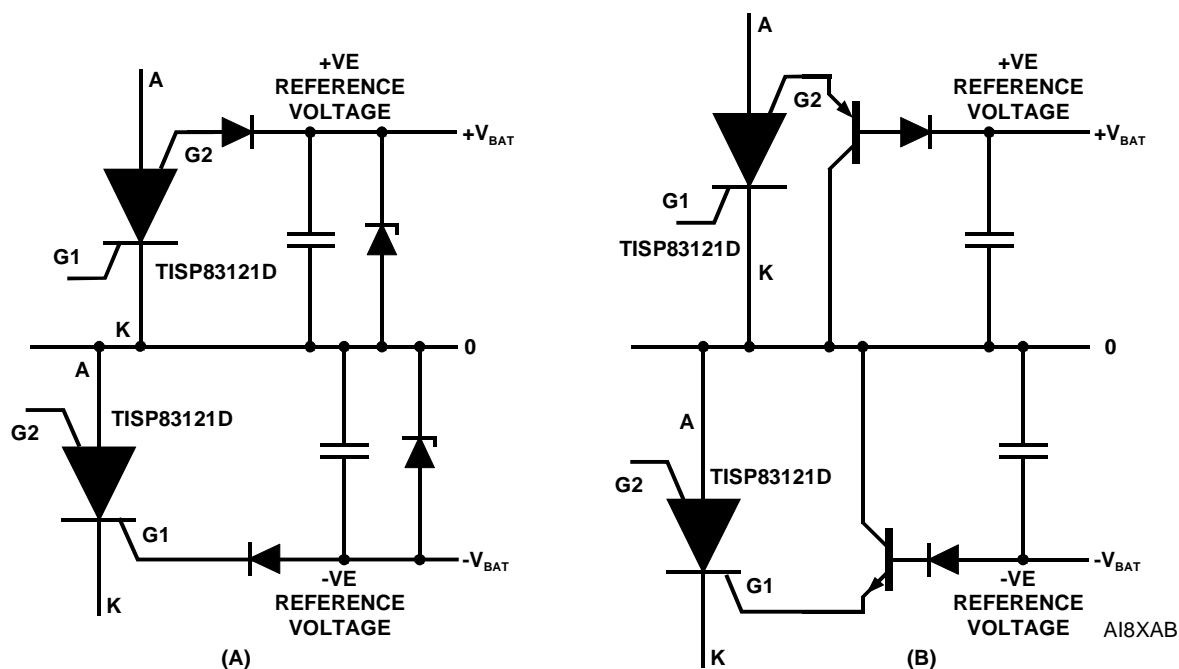

Figure 3. REFERENCE VOLTAGE CONTROL BY (A) BREAKDOWN DIODES OR (B) BY TRANSISTOR BUFFERS
In many designs, the battery supply voltages are generated by switching mode power supplies. This type of power supply cannot be charged like a battery. Feeding a charging current to a switching mode power supply will usually cause the supply to stop switching and the voltage to rise. The gate current of the TISP83121D is a charging current for the supply. To avoid the supply voltage from rising and damaging the connected SLICs, an avalanche diode voltage clamp can be connected across the supply (Figure 3. (A)).
Another approach is to reduce the gate charging current for the supply by a transistor buffer (Figure 3. (B)). If the transistor gain was 50, a 200 mA gate current would be reduced to a supply charging current of  $200/50 = 4$  mA. In both cases, the dissipation in the control devices can be substantial and power capability needs to be taken into account in device selection.